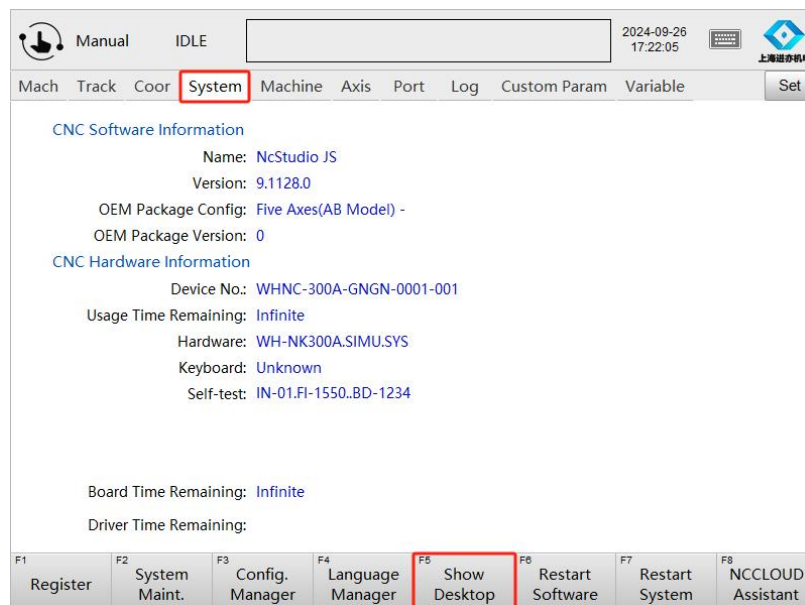

Figure 7.2.3 Show Desktop
(3) Enter the manufacturer interface, as shown in Figure 7.2.3. Click "System Information," then click "Show Desktop."